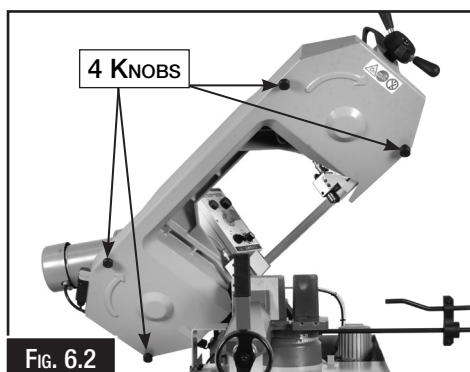

FIG. 6.2
3. Remove the back cover by removing the 4 knobs displayed in (Fig. 6.2).